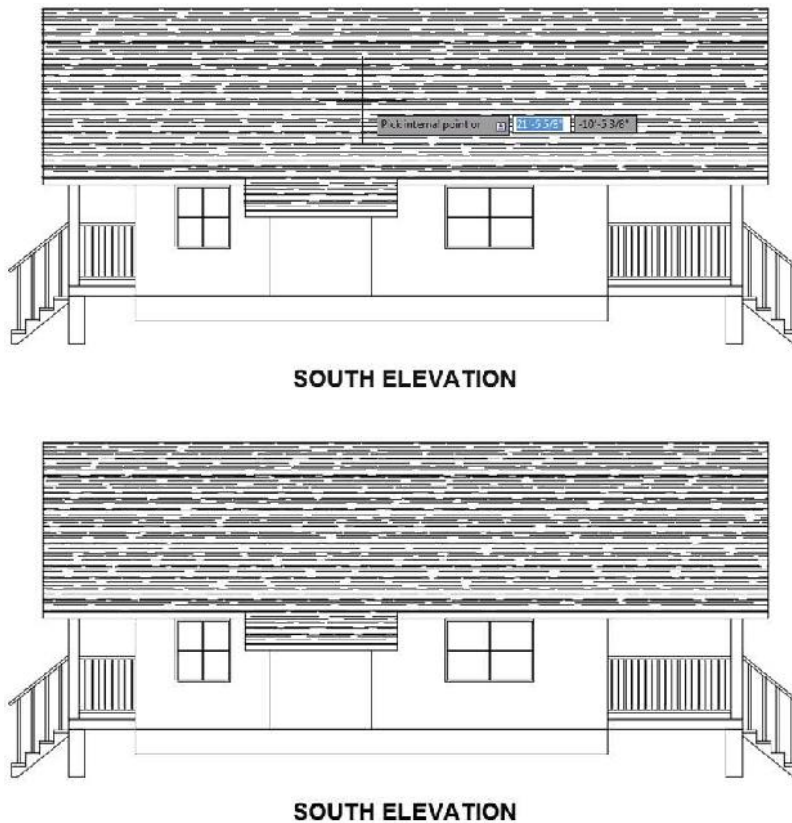

FIGURE 11.4: The Hatch preview displayed after the cursor hovers over the roof area (top), and the finished hatch pattern displayed in the roof area (bottom)
A preview of your hatch appears within the roof area, as shown at the top of Figure 11.4.
12. With this preview correctly displaying the AR-RROOF pattern in the roof area, click and then press \downarrow to create the hatch (see the bottom of Figure 11.4).